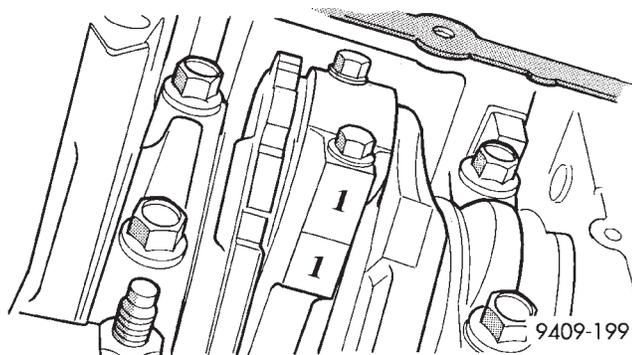

Fig. 76 Identify Connecting Rod to Cylinder
(2) Remove oil pan. Scribe the cylinder number on the side of the rod and cap (Fig. 76) for identification.